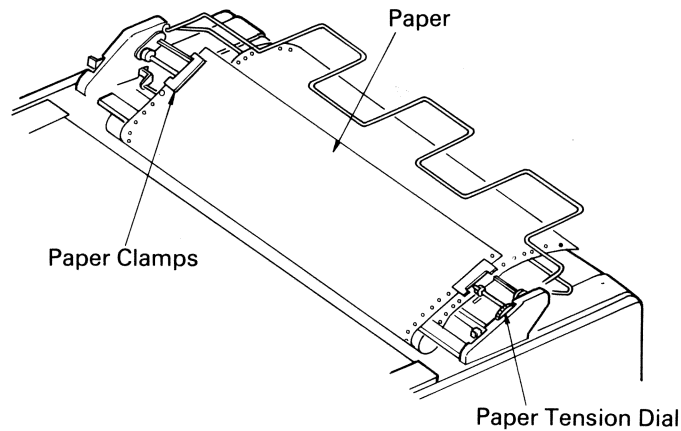

Figure 8
12. Close the Paper Clamps. (See Figure 8.)